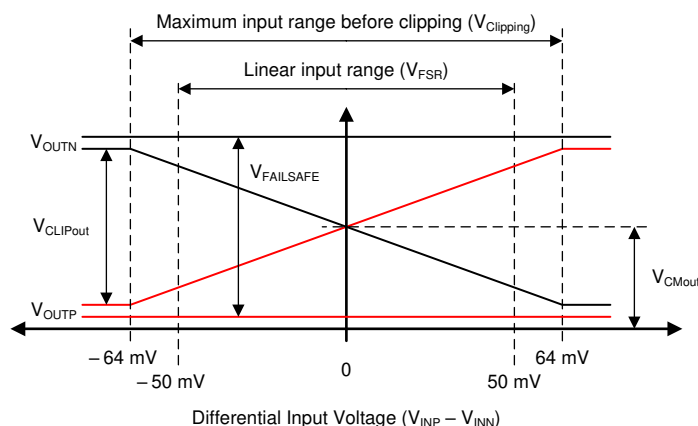

图 7-2. Output Behavior of the AMC3302
The AMC3302 offers a differential analog output comprised of the OUTP and OUTN pins. For differential input voltages ($V_{INP} - V_{INN}$) in the range from -50 mV to 50 mV, the device provides a linear response with a nominal gain of 41. For example, for a differential input voltage of 50 mV, the differential output voltage ($V_{OUTP} - V_{OUTN}$) is 2.05 V. At zero input (INP shorted to INN), both pins output the same common-mode output voltage V_{CMout} , as specified in the Electrical Characteristics table. For absolute differential input voltages greater than 50 mV but less than 64 mV, the differential output voltage continues to increase in magnitude but with reduced linearity performance. The outputs saturate at a differential output voltage of $V_{CLIPout}$, as shown in Figure 7-2, if the differential input voltage exceeds the $V_{Clipping}$ value.
The AMC3302 provides a failsafe output that simplifies diagnostics on system level. Figure 7-2 shows the failsafe mode, in which the AMC3302 outputs a negative differential output voltage that does not occur under normal operating conditions. The failsafe output is active in two cases:
- The low-side does not receive data from the high-side (for example, because of a loss of power on the high side). In this case, the amplifier outputs are driven to the V_{FAILSAFE} value, see 图 7-2.
- The high-side DC/DC output voltage (DCDC_OUT) or the high-side LDO output voltage (HLDO_OUT) drop below their respective undervoltage detection thresholds (brown-out). In this case, the low-side may still receive data from the high-side but the data may not be valid. The amplifier outputs are driven to V_{FAILSAFE} value, see 图 7-2.